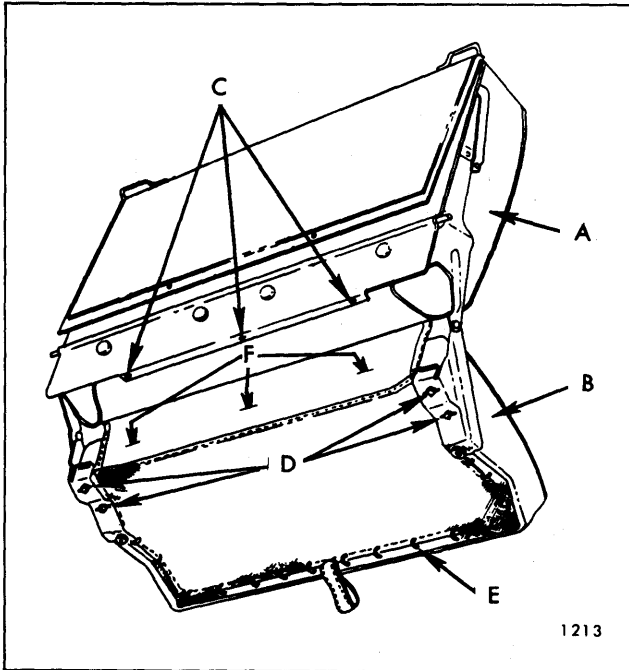

Fig. 15-82—Folding Third Seat Assembly
2. Remove hog rings securing seat back trim flap to bottom of seat cushion (Fig. 15-82).
4. As a bench operation remove hex-head screws securing seat cushion trim to seat cushion frame (Fig. 15-82) and three screws securing rear edge of seat cushion trim to seat cushion frame; then, remove cushion trim assembly from cushion frame.
3. To remove seat back trim assembly remove seat back trim-to-seat back panel attaching screws (Fig. 15-82); then, lift trim assembly upward to disengage wire loops on seat back trim from slots in seat back panel and remove trim assembly.